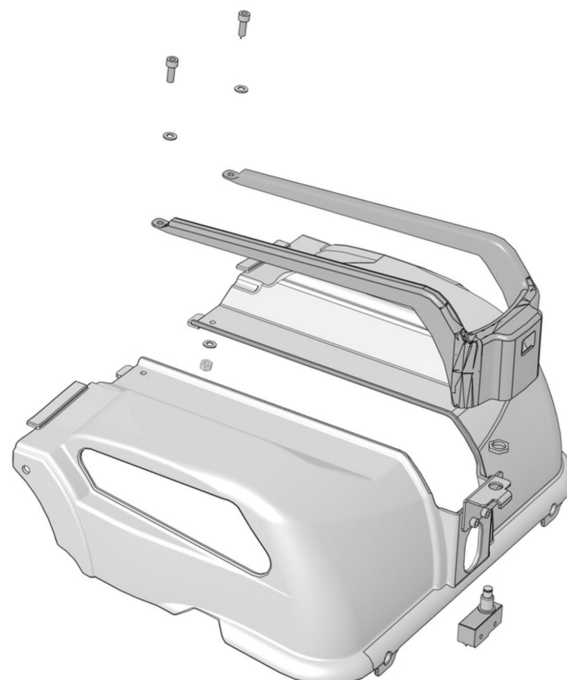

Figure 10. Crush protection with cover and sensor.
6. Remove the crush protection switch. This is held in place with a nut. See fig. 10.